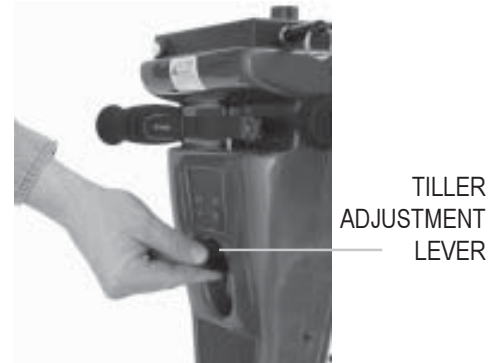

FIGURE 11. TILLER ADJUSTMENT
1. Pull up on the tiller adjustment lever. See figure 11.